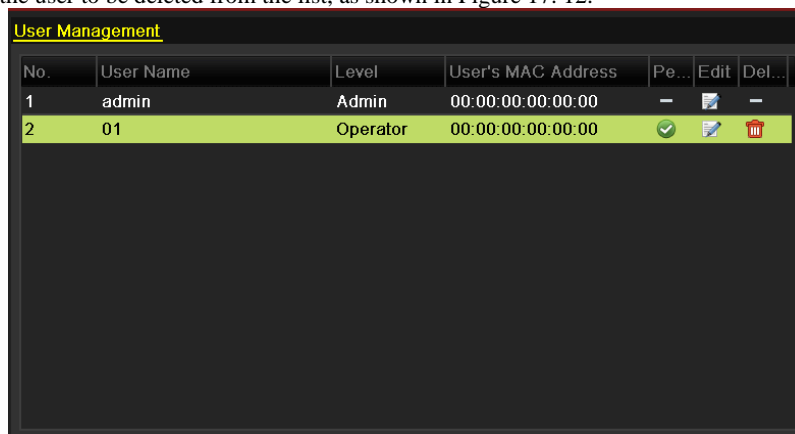

Figure 17. 12 User List
2. Select the user to be deleted from the list, as shown in Figure 17. 12.